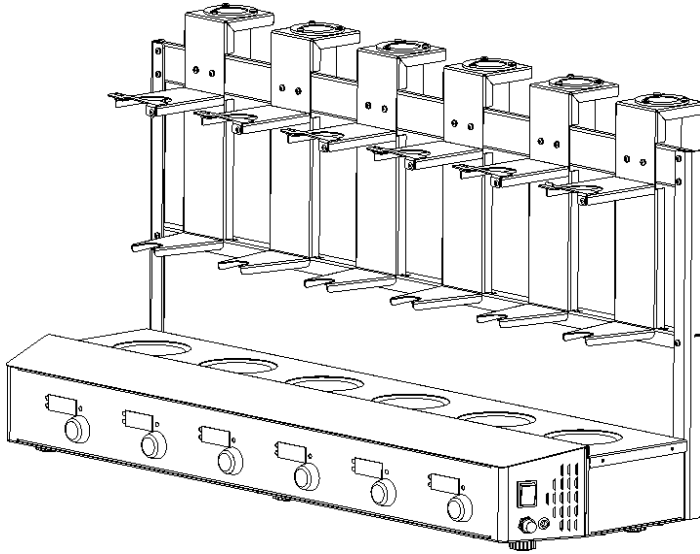

Figure 24.1
- Once the whole assembly is done the unit will look like figure 24.1.